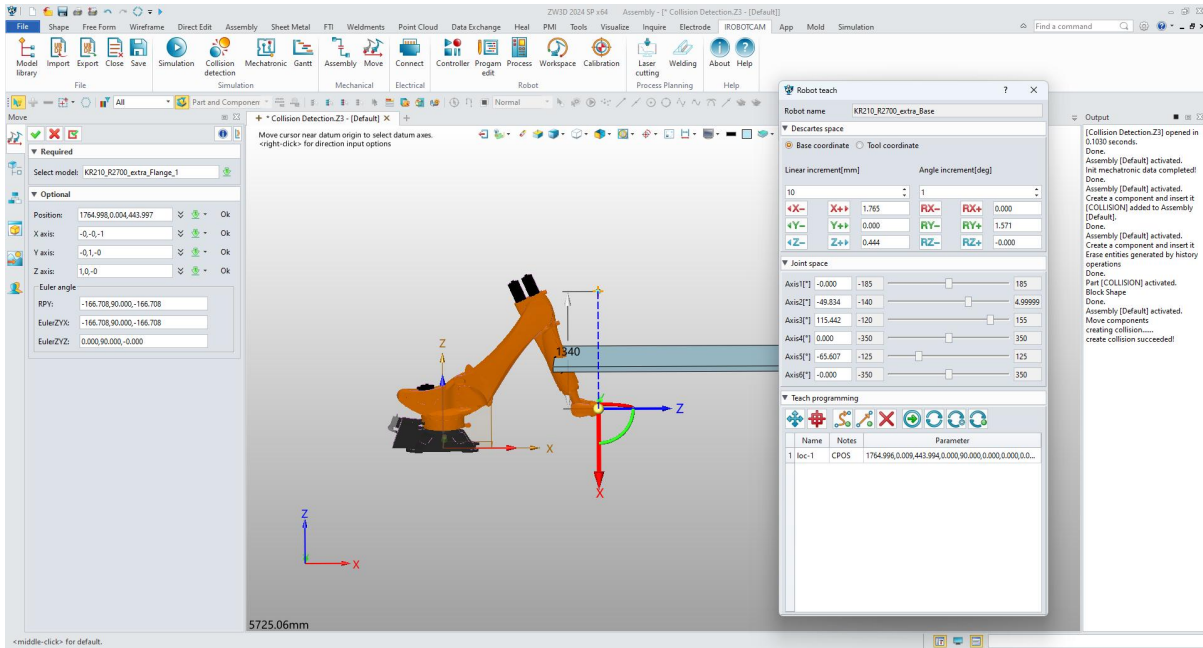

Figure 11-17: First marking point
- Click to “Record End point” at this location. (Figure 11-17)